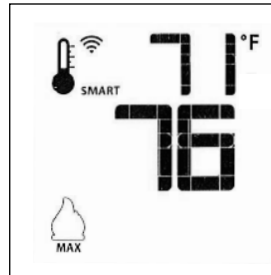

Figure 86. Smart Mode
- To activate this function, press the Thermostat Key until the word “SMART” appears to the right of the thermometer bulb icon. Fig. 86.